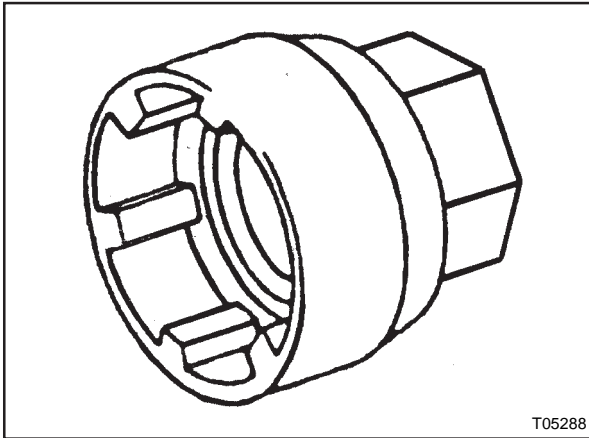

Figure 6 : Hub nut socket VH A996030253
7. Undo hub nut #1 using the socket shown in Figure 6. Remove washer #2.